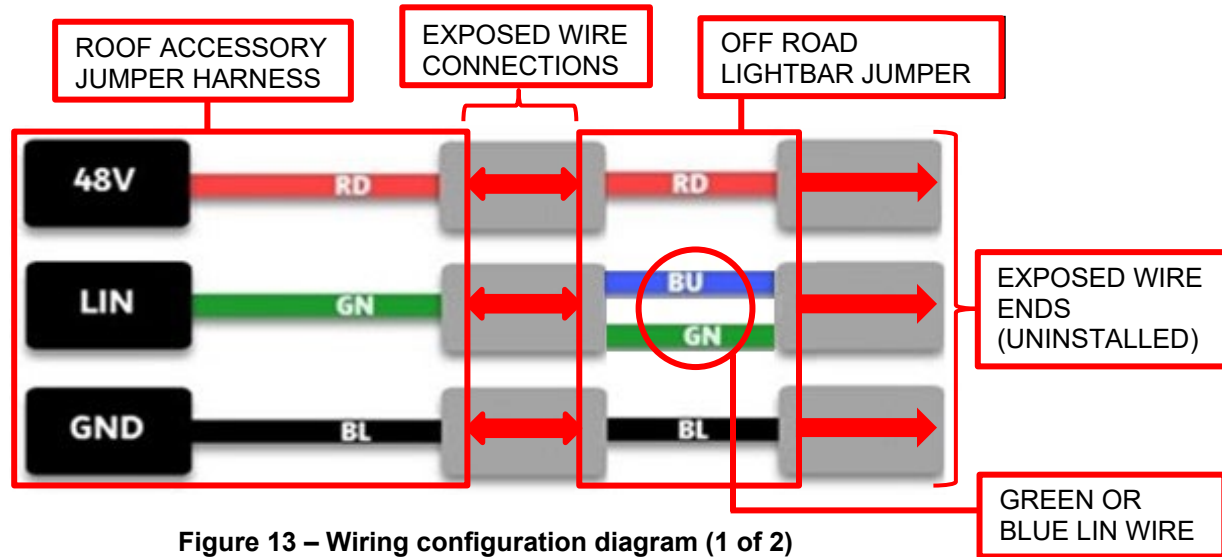

Figure 13 – Wiring configuration diagram (1 of 2)
13. Prepare to install the off road lightbar jumper wires (x3) to the roof accessory jumper harness according to the wiring configuration diagram (Figure 13).